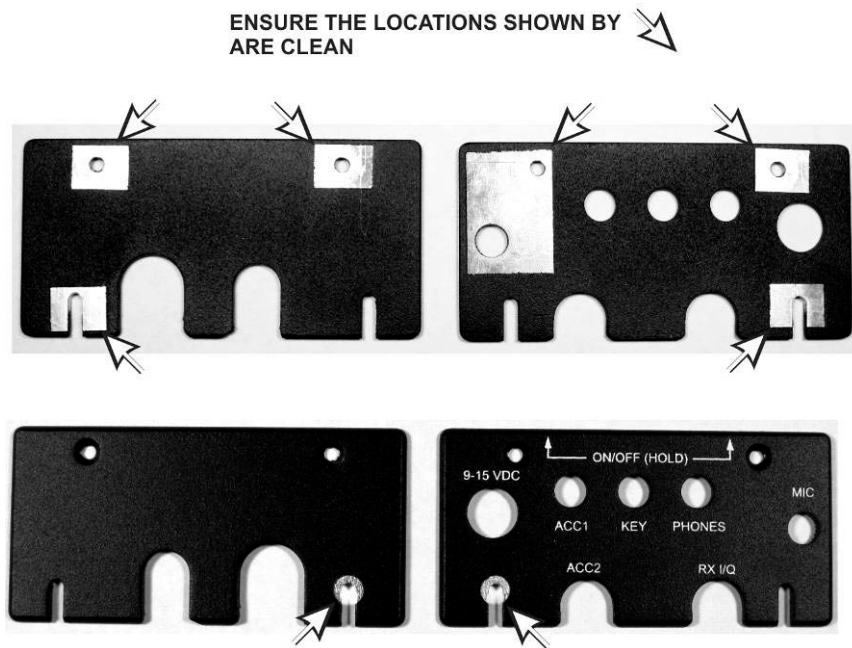

Figure 6. Side Panels Clean Contact Areas.
- Inspect the inside surface of the side panels. Remove any masking tape and ensure the metal is clean in the areas shown in Figure 6.